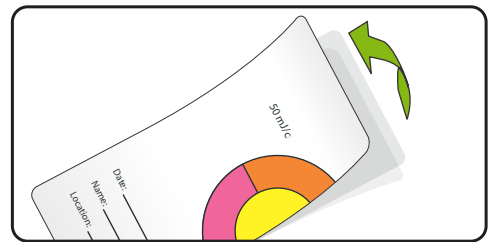
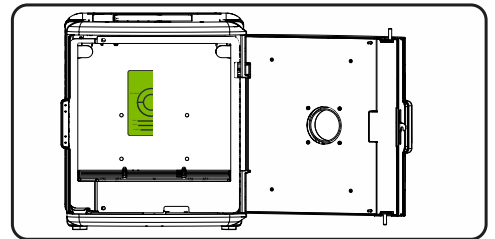

Figure 3 - Peel off backing
Figure 4 - Apply test card to rear chamber wall
2. Empty chamber of UV Tech Tub®, items inside will impact test results. Remove the adhesive backing on the test card (Figure 3) and apply to the rear wall of the chamber in the UV Tech Tub® as shown in Figure 4.